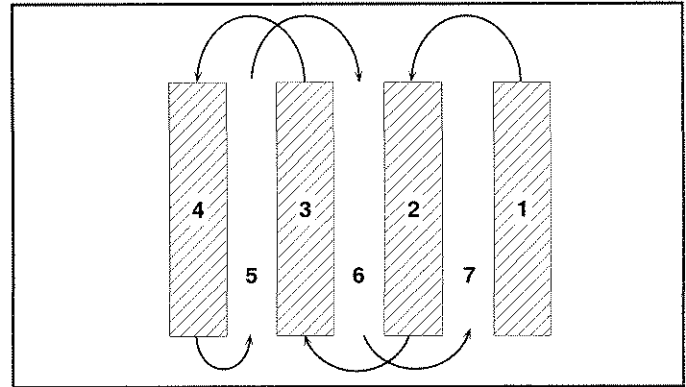

FIG. 9
- You will find tilling much easier if you leave a row untilled between passes. Then go back between tilled rows. (See Fig. 9) There are two reasons for doing this. First, wide turns are much easier to negotiate than about-faces. Second, the tiller won't be pulling itself, and you, toward the row next to it.